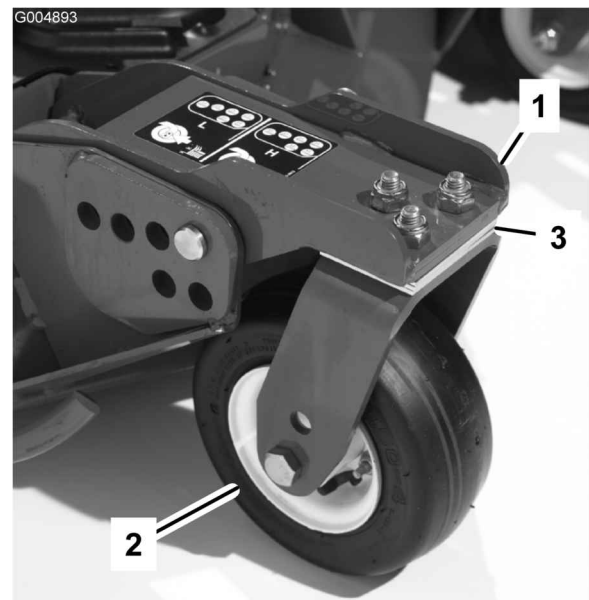

Figure 77
1. Remove the cap screws and nuts securing the castor arm to the castor fork (Figure 77).